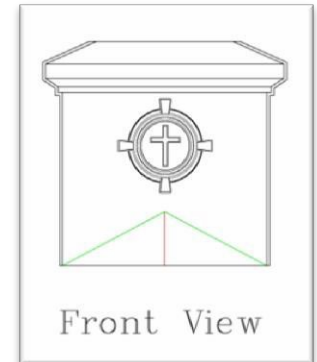

Figure D9: Finishing mark for pitch cut.
Step 9: If using a homemade pitch gauge, use a straight edge to connect the end of each line to the top of the center line you drew in step 6. Refer to figure D9.